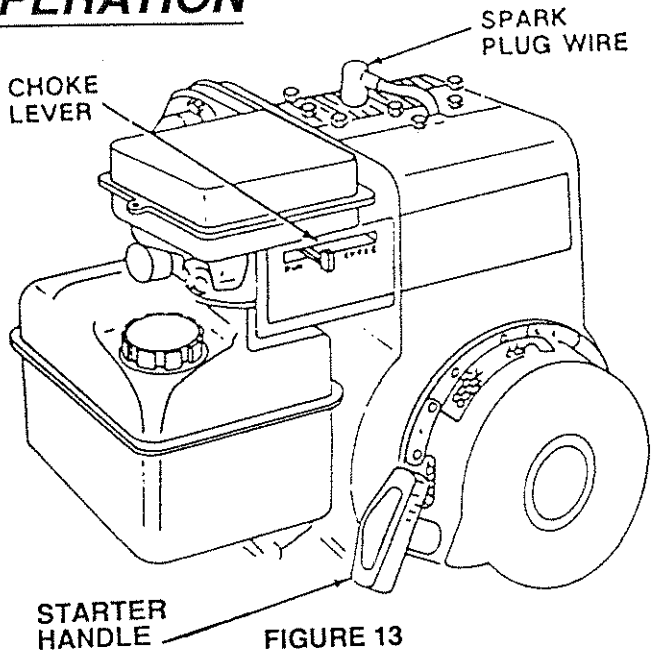

FIGURE 13
- a. Connect Spark Plug Wire. (Fig. 13).
- d. Place Choke Control Lever In "CHOKE" position (Fig. 13).
- e. Grasp Starter Handle (Fig. 13) with one hand and grasp Handle Bar with other hand. Pull Rope out slowly until Engine reaches start of Compression Cycle (Rope will pull slightly harder at this point).
- g. Repeat preceding instructions (d) and (e) until Engine fires. When Engine starts, place Choke Control Lever on Engine halfway between "CHOKE" and "RUN" position (Fig. 13) and then to "RUN" position as Engine warms up.